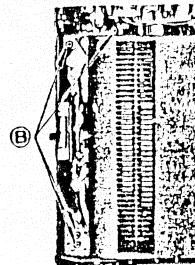

Fig. 8
2. Remove 4 screws (B) shown in Fig.8.